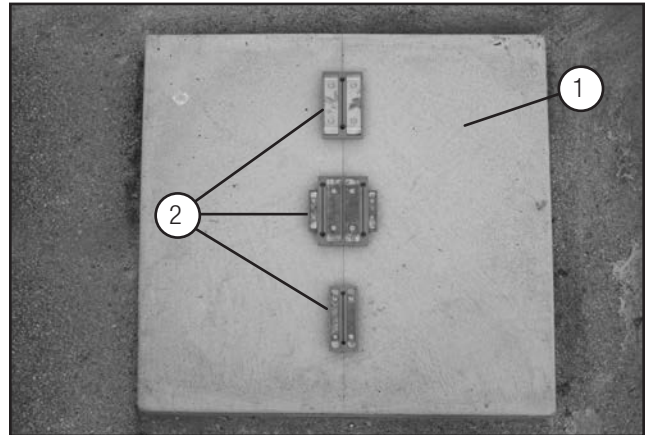

Figure 7-1 1. Concrete Cutout
4. Set base plates on top of 1 concrete cutout square. See **Figure 7-1**.
5. Use a ruler or scale and permanent marker to draw the layout of the base plates and mounting holes on the concrete cutout square. See **Figure 7-1**.